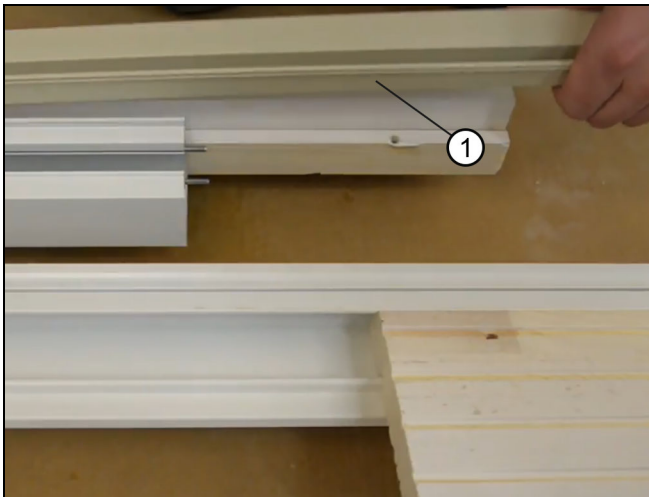

Figure 20
2. Remove the loose shoot bolt channel, and set aside for installation later. See Figure 20.